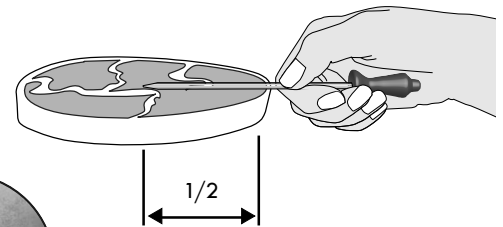

Fig. 3
- For bone-in ham or lamb, insert meat probe into the center of lowest large muscle or joint. For dishes such as meat loaf or casseroles, insert meat probe into center of food. To find center of the food visually measure using probe as a guide (See Fig. 3). When cooking fish, insert meat probe just above the gill.